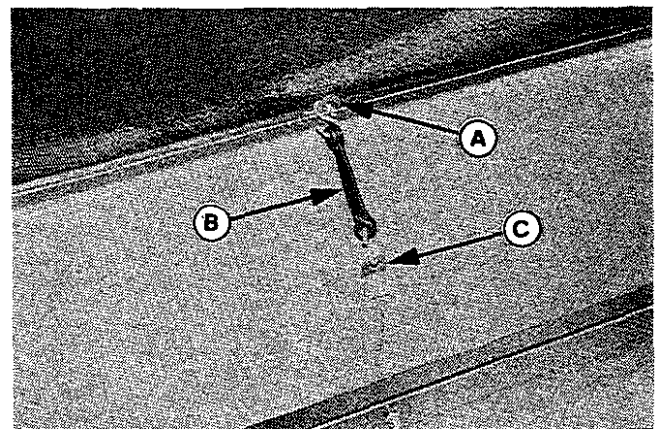

Figure 15
- Install the six inch rubber strap (A, figure 15) at the back of the box. Hook the strap over the metal loop (B) on the frame rod, which protrudes through the cover. Close the hook with a pair of pliers. Hook the other end of the strap over the door lock (C) on the box.